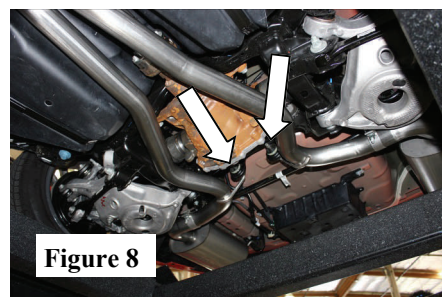

Figure 8
4. Repeat Step 3 for the **R/H Over-Axle Pipe Assembly** installation to the right-side. (See Fig. 8)